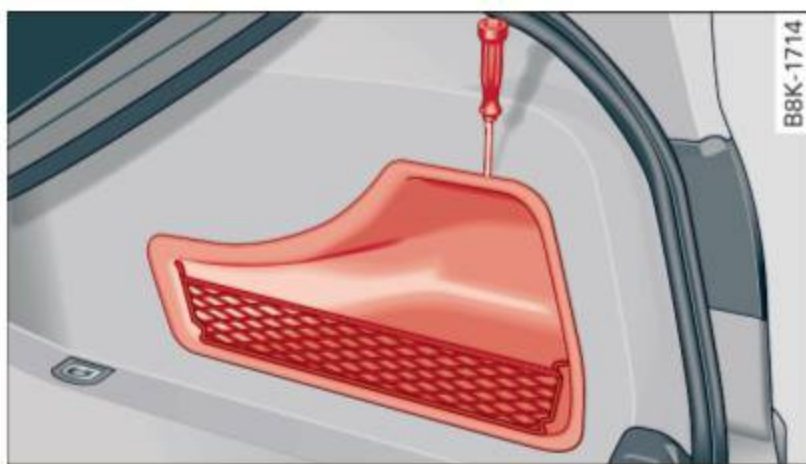

Fig. 165 Luggage compartment: opening the side trim
- ▶ Insert a tool such as a screwdriver ⇒ *page 252* or the emergency key into the right side of the upper gap ⇒ *fig. 165*.